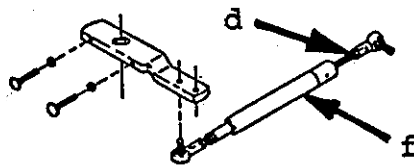

Fig. 5 Neutral Centering Device Adjustment
- d. The Neutral Centering Device is located on the righthand underside of the engine deck. Loosen jamnut from the ball joint which connects the override assembly to the engine deck anchor mounting. See figure 5.